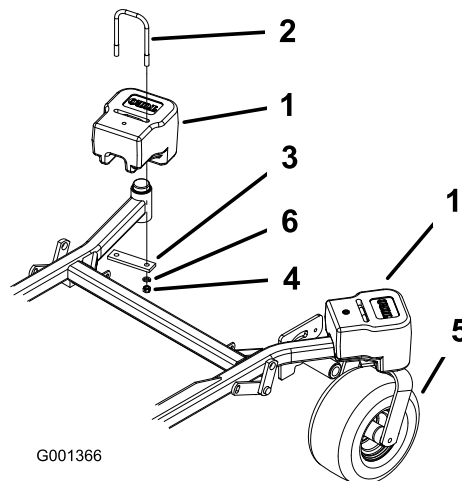

Figure 27
2. Install plate, nuts (1/2 inch) and lock washer (1/2 inch) under the frame and weight (Figure 27).